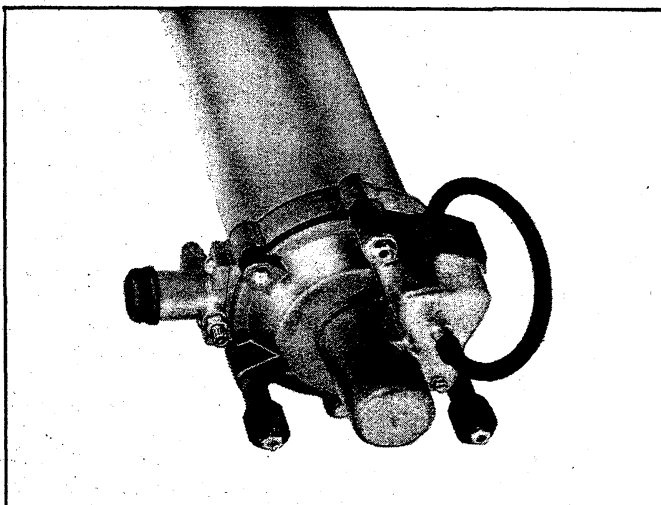

Fig. 16 - Assembly Leak Test Preparation
3. Route an 8" rubber hose between vacuum and vent ports, (fig. 16).